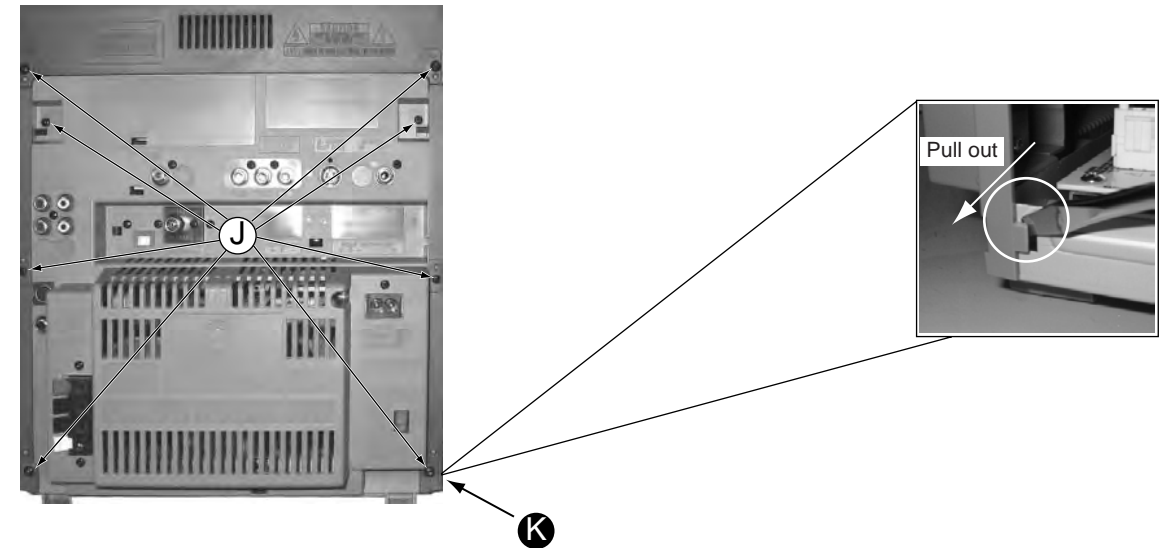

Figure11
- 1) Loosen 8 screws ' J ' to remove the Rear Panel figure 11.
- 3) Release 2 catches ' K ' on both sides of the Rear Panel with the help of a minus screw driver and pull out the Rear Panel figure 11.